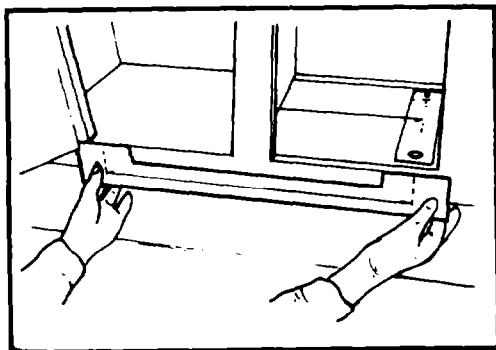

Fig. 10
- Adhere Template 1 on front of the cabinet with scotch tape so that the arrow is aligned with the hole center line on Template 2 (Fig. 10)